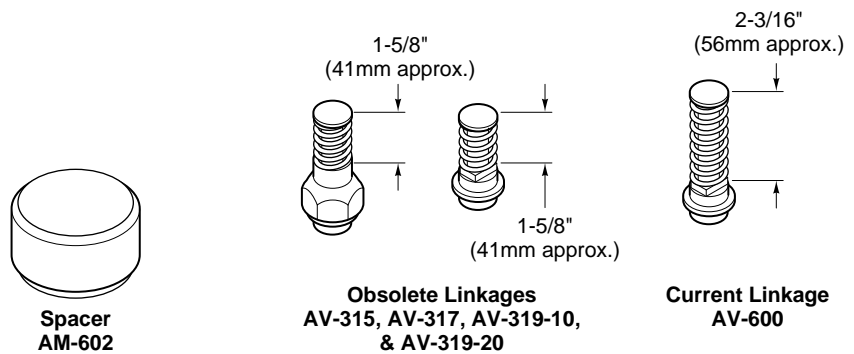
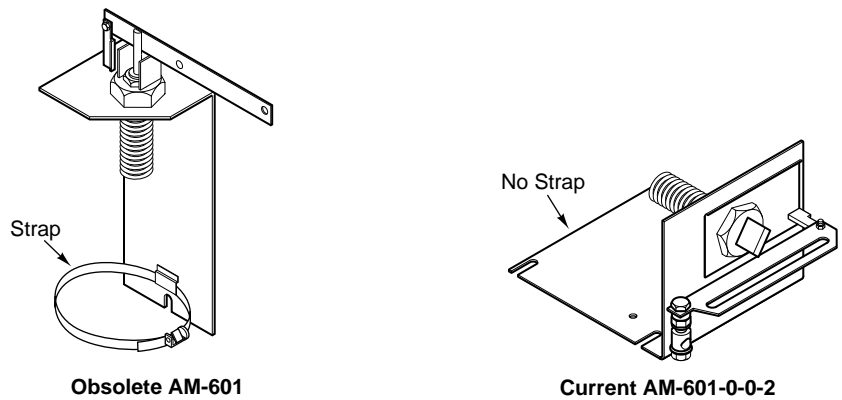

Figure-19 Spacer and Current and Obsolete Valve Linkages.
Figure-20 Current and Obsolete Damper Linkages.
2. The AM-602 spacer is used when current actuators are installed on old linkages (refer to Figure-19 and Figure-20).